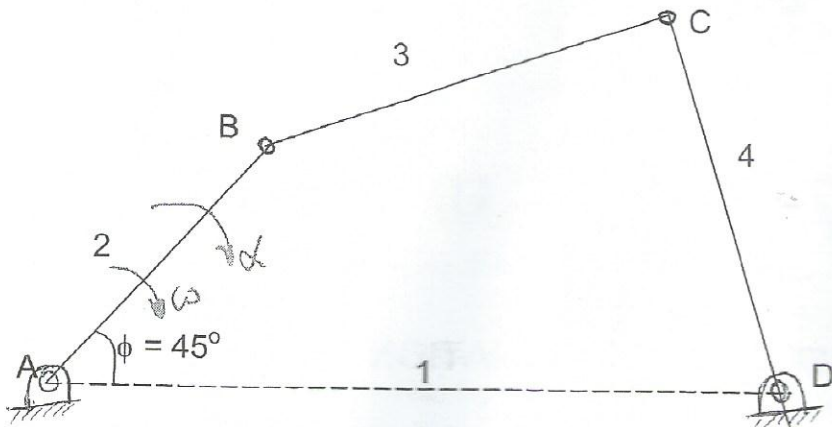

Fig. Q1
b) For the Four-Bar mechanism shown in Fig Q1, knowing that $AB = 250$ mm, $BC = 305$ mm, $CD = 305$ mm, $AD = 572$ mm, $\omega_2 = 20$ rads^{-1} and $\alpha_2 = 160$ rads^{-2} .